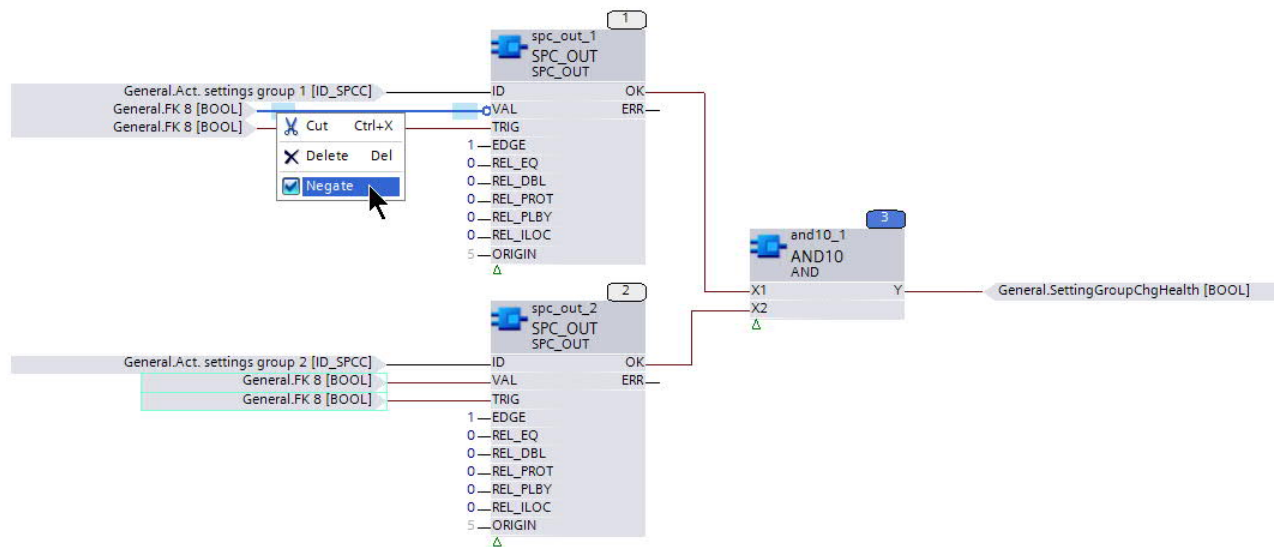

Figure 6: The CFC logic for the setting group selection
With the signal "FK8" which toggles from 0 to 1 and back to 0 each time the function key 8 is pressed we additionally define the VAL input of the block SPC_OUT. If VAL = 0, the setting group is deselected, for VAL=1 the setting group is selected. With the negation of VAL for the first setting group we select this setting group when the signal "FK 8" is 0 and deselect it, when "FK 8" is 1. The negation can be either done with a dedicated negator element (NEG) or by right mouse clicking on the connection line and selecting the Negate option as shown in Figure 6.